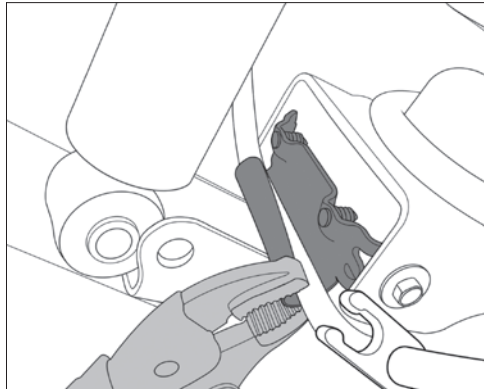

Figure 17
11. For **2011 and newer** models, remove and discard factory bracket from the brake line (Fig. 17).